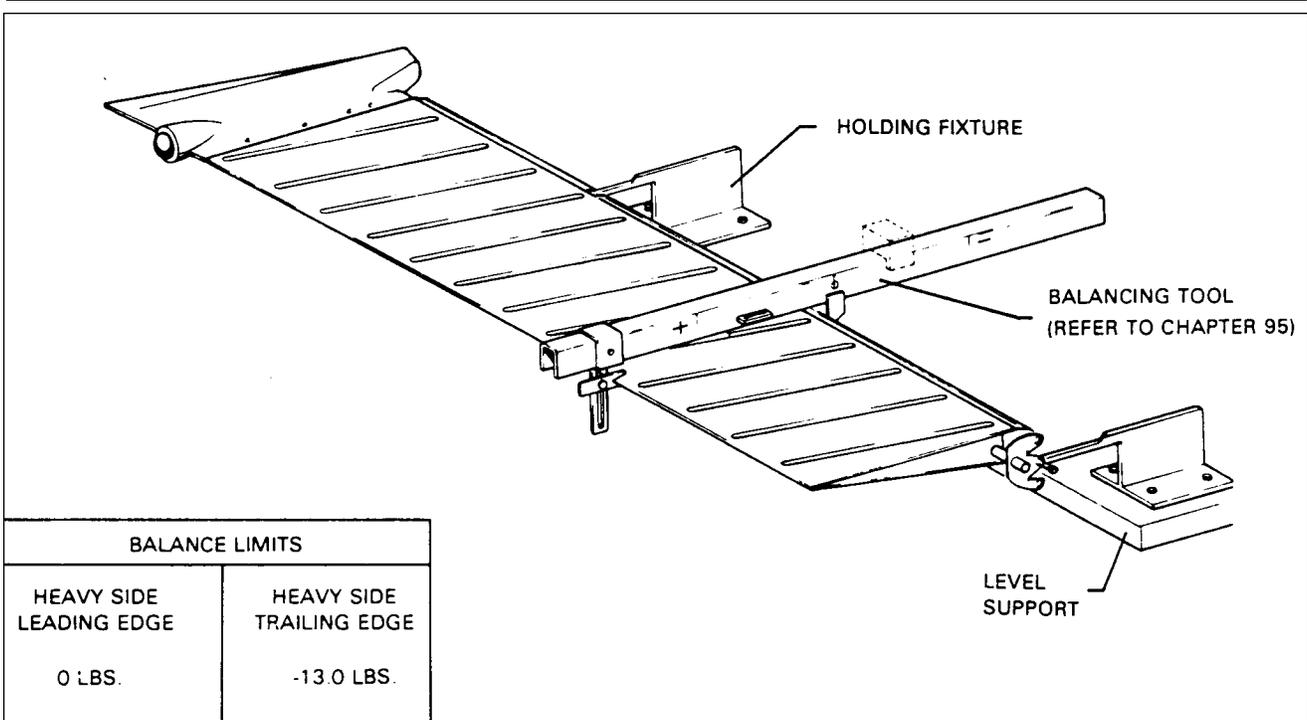

Figure 55-4. Rudder Balance
**BALANCING RUDDER** (figure 55-4)
3. If the static balance is not within the limits given in figure 55-4, proceed as follows:
*A non-adjustable mass balance weight is molded in the nose of the rudder tip. All rudders should be maintained within static balance weights provided in figure 55-4.*